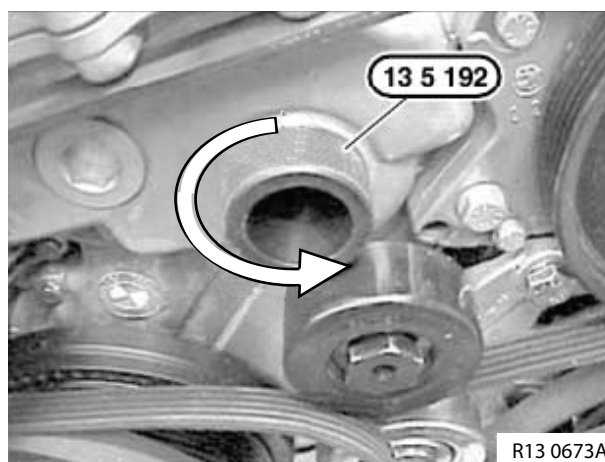

Figure 6-30
4. Remove special tool OEM No. 13 5 192 from timing case cover (**Figure 6-30**).